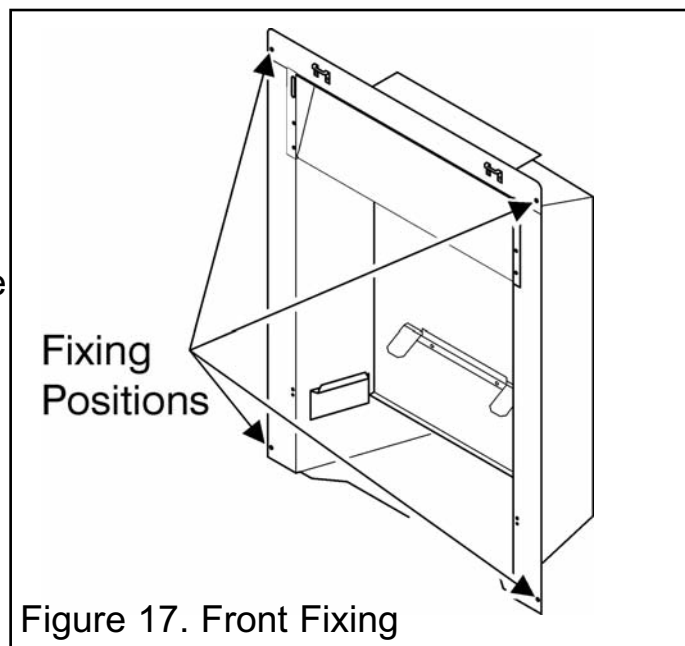

Figure 17. Front Fixing
1. If this method of fixing is required the front flange of the hotbox can be drilled in the positions shown in figure 17 using a suitably sized drill bit for the woodscrews supplied. When drilling the right hand side ensure that the screw heads / screw positions do not obstruct the operation of the slider control.
4. Mark the fireplace front surround through the four holes in the side flanges of the hotbox (See point 1 and figure 17).